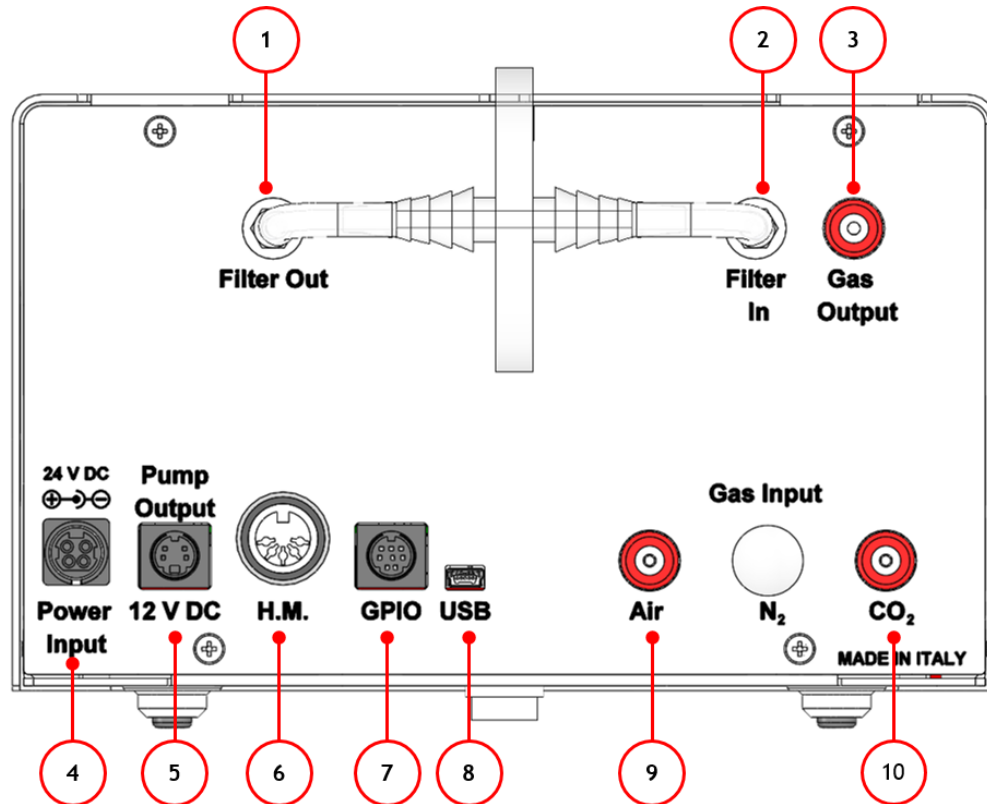
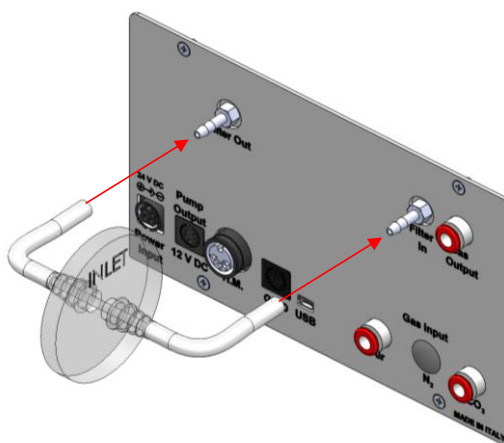

Figure 5. Gas Controller Rear Panel Overview
Figure 9. Filter tubing
A detailed description of the CO2 UNIT BL rear is provided in the following list, which refers to the pointers in Figure 5:
2. Install the **PTFE filter** on the rear panel of the CO₂-UNIT-BL. It filters the Air/CO₂ flow coming from their tanks before entering in contact with sensing cells. It prevents sample contamination from bacteria and gas sensors from damages caused by dirty gas streams. It is connected with two 4 I.D. mm silicon tubes with the “Filter In” and “Filter Out” connectors on the rear panel of the CO₂-UNIT-BL (see Figure 9 and pointer 1 and 2 in Figure 5).